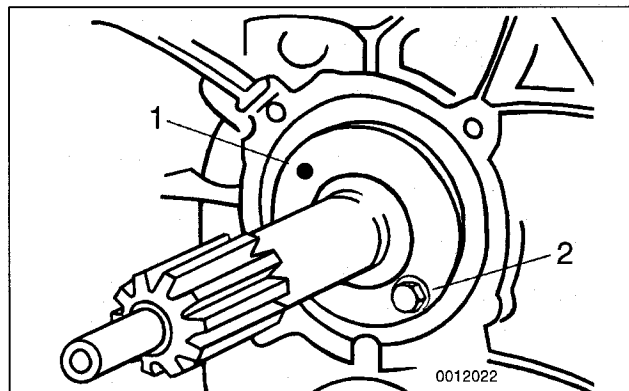

Fig. 9. Indent at oil seal housing (1). Punch holes in seal housing at indents and use sheet metal screw (2) to pull seal from transmission.
4. Locate two indents in seal housing. Use a punch or scribe to punch holes in housing at indents. Thread two sheet metal screws into holes and pull seal out using screws. See Fig. 9.